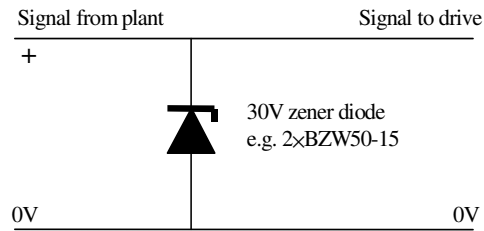

Figure 1 Surge suppression for digital and uni-polar analogue inputs and outputs
3. Additional over-voltage suppression. This applies to analogue and digital inputs and outputs. A zener diode network or a commercially available surge suppressor may be connected between the signal line and 0 V as shown in Figure 1 and Figure 2.